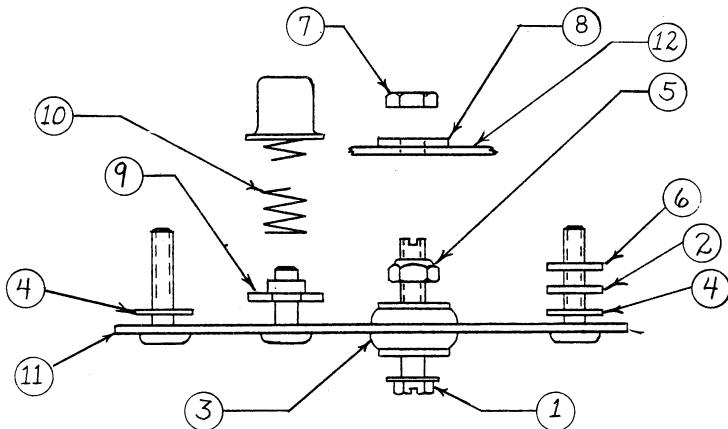

Figure 4-3. 1030N MOTOR MOUNT ADJUSTMENTS
Motor Adjustments—1030N (Figures 4-3 and 4-4)
1. Start adjustments of Motor mounting with one each of Washers (6) (35473-63X) and (4) (35473-46X) on each mounting screw of the Motor Mounting Plate (11). (Washer (2) is shown on drawing as reference only; see Step 5 below).
2. Thread Nut (9) all the way down to Motor Mounting Plate (11).
3. Loosen Nut (7) and turn Screw (1) counterclockwise (using screwdriver slot) to relax tension on Motor Belt. (Figure 4-3)